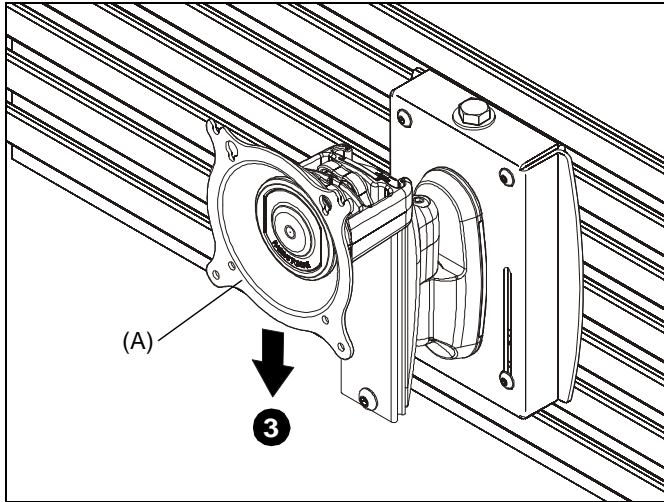

Figure 8
- Slide the Centris assembly (A) over wall mount (C). (See Figure 8)